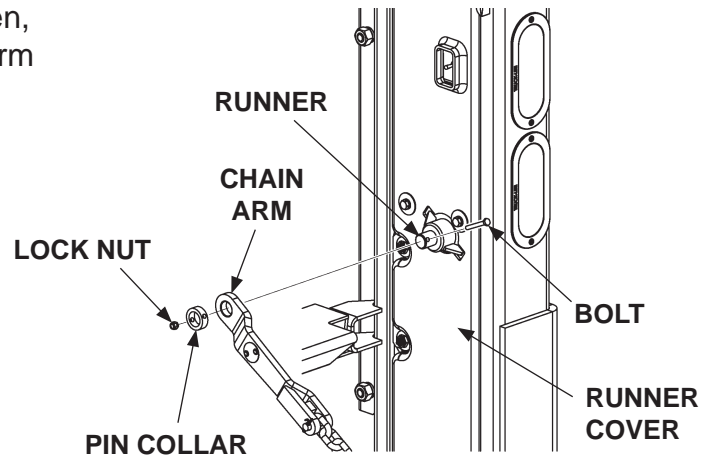

FIG. 11-1
24. Reattach chain arm to RH runner. Then, bolt on the pin collar to secure chain arm (FIG. 11-1). Repeat for LH runner.